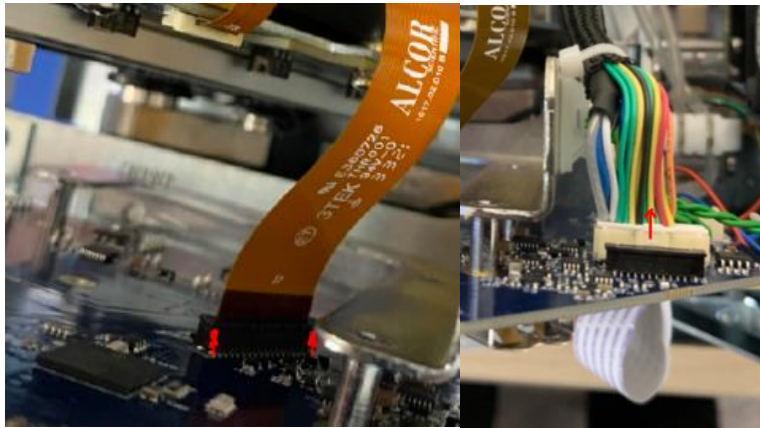

Figure 8
- 2.7. Remove the Robotics Cable [9] and Analog Cable [10] from the back side of the main board by releasing tabs and pulling cable from each connection per Figure 8.